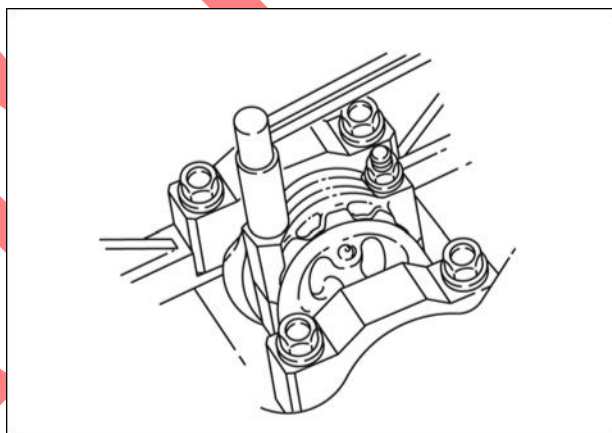

Figure 8
3. Assemble connecting rod cap with bearing and torque to values listed in Section 14 (Figure 8).